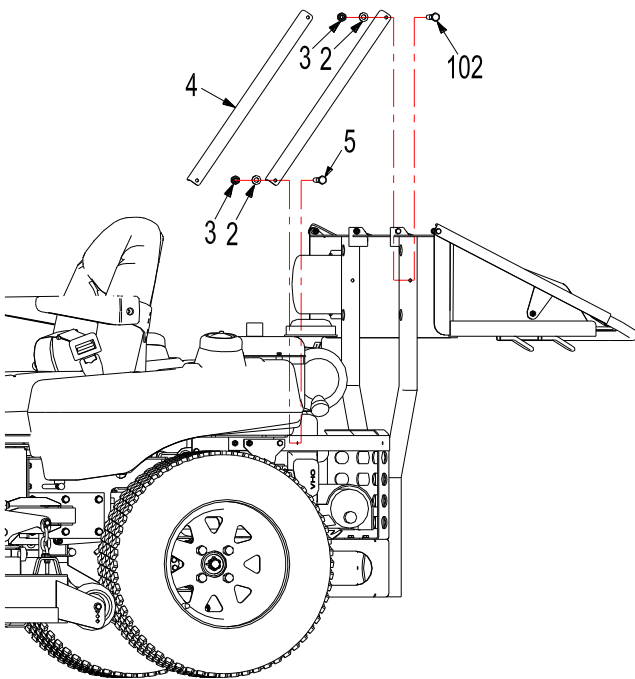

FIG 10
c) Attach frame support angles to hood frame assembly. (FIG10)